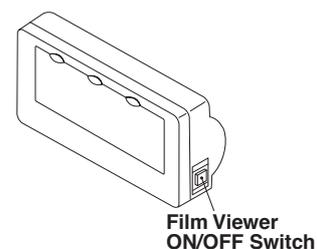

Fig.3-18 Dental Size Film Viewer
(7) Dental Size Film Viewer (Fig.3-18)